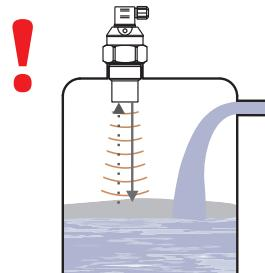

Fig. 5: Thick foam on the surface
g) Foam on the level absorbs the acoustic wave reflection which might cause **malfunction** of the level meter. For mounting find the location where the foaming is as low as possible (Fig. 5).